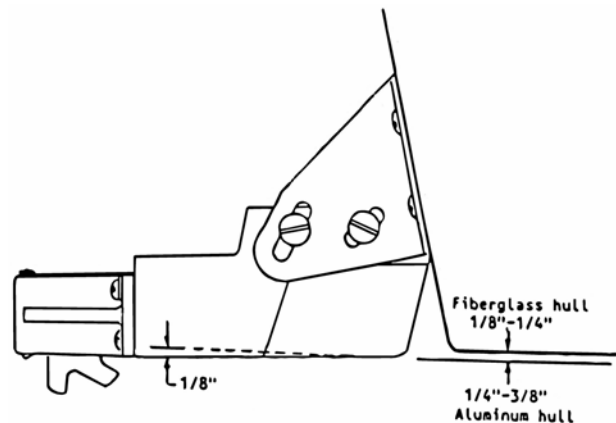

Figure 2
2. Place assembly on transom at selected location with the front of the transducer extending 1/8" to 1/4" below the bottom of the boat and with the front part against the transom. See Figure 2. The least amount that the transducer extends below the bottom is desirable. If too low, spray and turbulence will occur.
6. Before final tightening the 4 screws holding the brackets to the transducer, tip the rear edge down approximately 1/8" as shown in Figure 2.